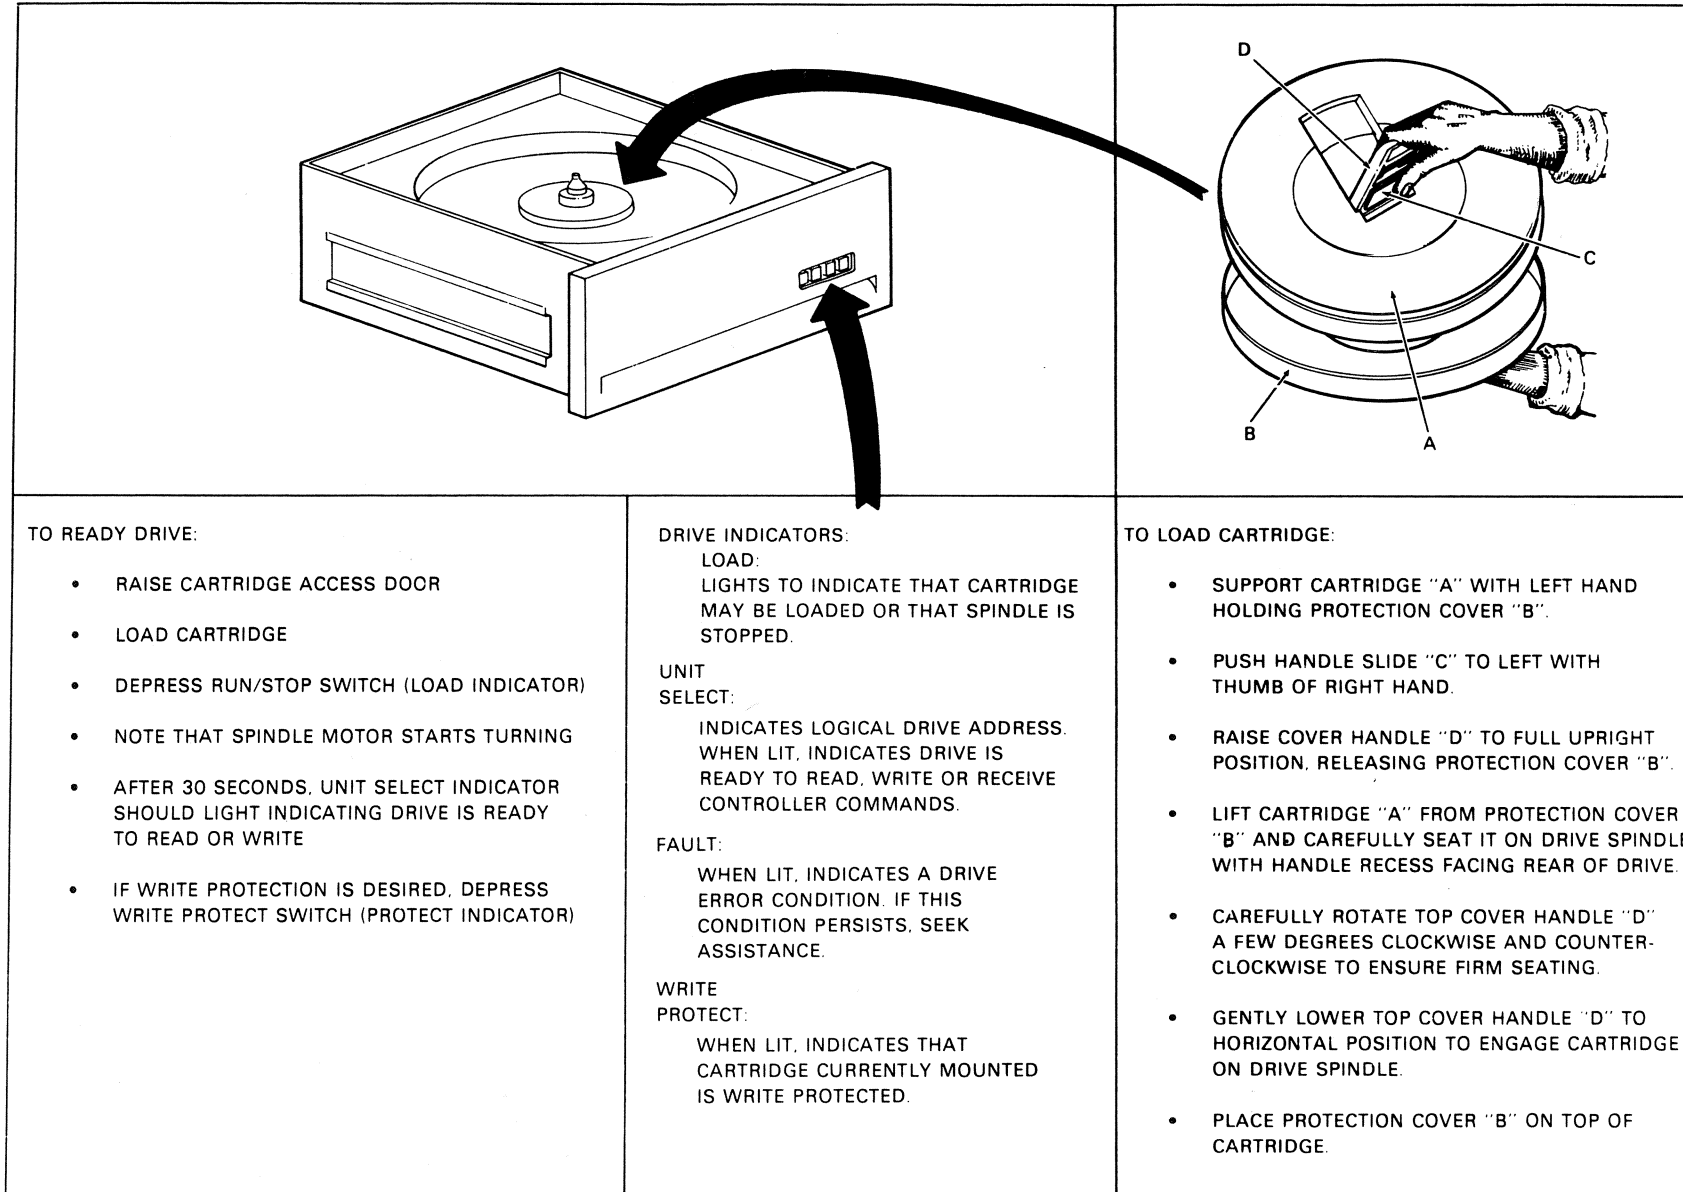

Figure 3-3 Cartridge Loading Procedure
2. Prepare a cartridge (Figure 3-3) for loading as follows.